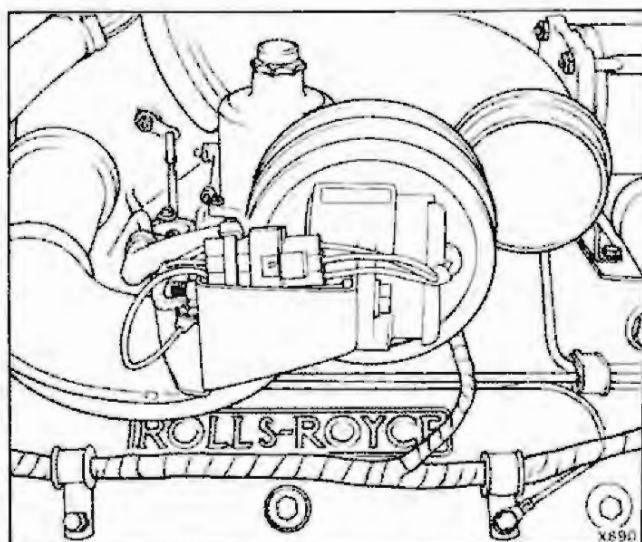

Fig. 7
- 11 With the cable ties provided in the fitting kit, clip the three-way plug/socket neatly to the mounting bracket (see illustration of complete installation fig. 7).